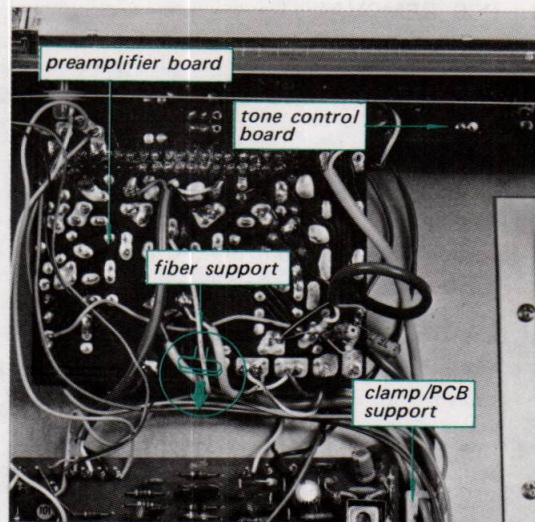

Fig. 2-17. Preamplifier board removal
2. Remove the lead wires from the clamp/PCB support one by one and then unhook the fiber support as shown in Fig. 2-17. This frees the preamplifier board.
2. Refer to the function switch replacement procedures for preamplifier board removal as described in Procedure 2-10. See Fig. 2-17.